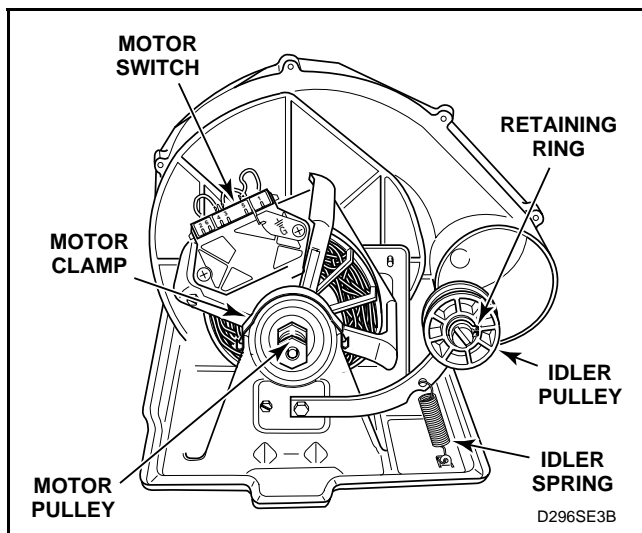

Figure 44
See *Figure 44* for motor and idler pulley removal.
- (2.) Pry two motor clamps off motor mounting bracket with screwdriver, then lift motor out of mounting bracket. See *Figure 44*.